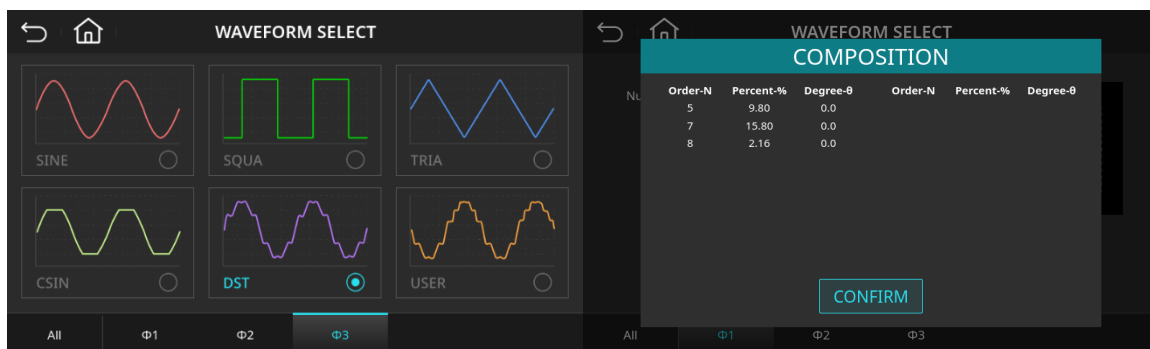

Figure 4-50: Output Waveform Selection Page (Third-Phase Output Waveform ($\Phi 3$) Set to Built-in Harmonic (DST1))
6. Return to the Waveform Select page. As shown in Figure 4-50, the third-phase output waveform ($\Phi 3$) has been changed to the built-in harmonic waveform (DST1).